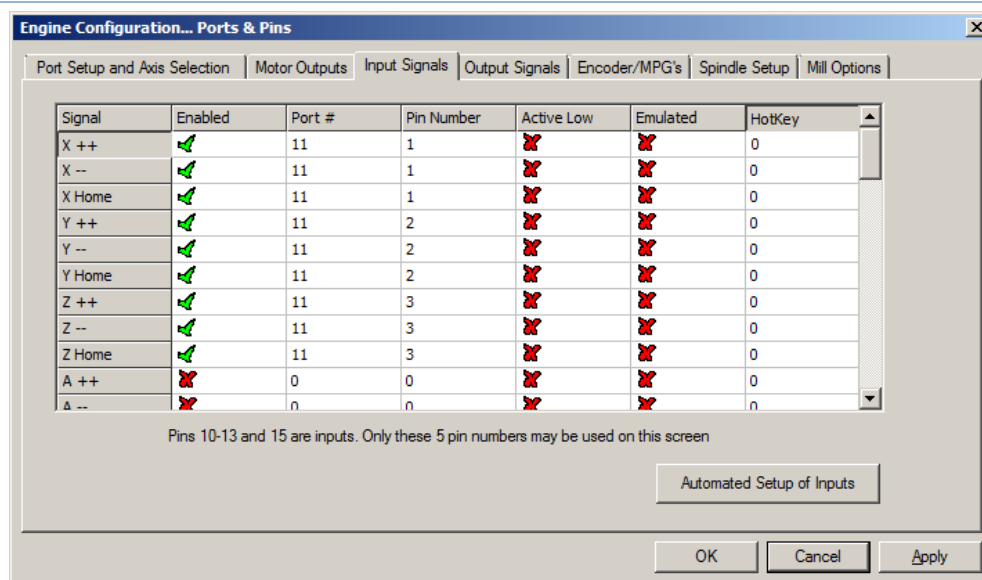

FIGURE 21 INPUT SIGNALS
6. Click on the **Input Signals** tab (See Figure 21).